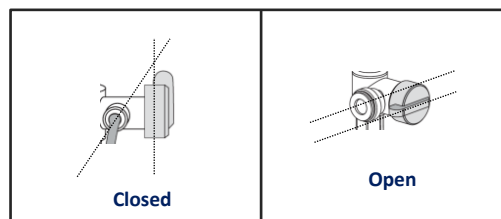

Fig. 11
5. Open up the **(H)** Angle Stop Adaptor to allow water to flow to the filter cartridge. **(Fig. 11)**